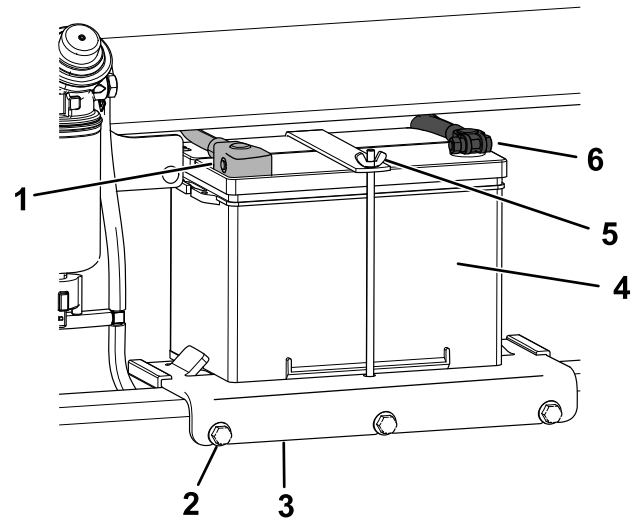

Figure 60
4. Disconnect the negative (black) ground cable from the battery post (Figure 60). Retain the fasteners.
6. Disconnect the positive (red) cable from the battery post (Figure 60). Retain the fasteners.
7. Loosen the 3 bolts securing the battery tray and remove the tray with the battery (Figure 60).
1. Place the battery on the battery tray and secure it with the wing nut and rod (Figure 60).
2. Install the battery tray to the machine and secure with the 3 bolts (Figure 60). Torque the bolts to 41 N·m (30 ft-lb).
3. Using the fasteners previously removed, install the positive (red) battery cable to the positive (+) battery terminal (Figure 60).
5. Using the fasteners previously removed, install the negative (black) battery cable to the negative (-) battery terminal (Figure 60).